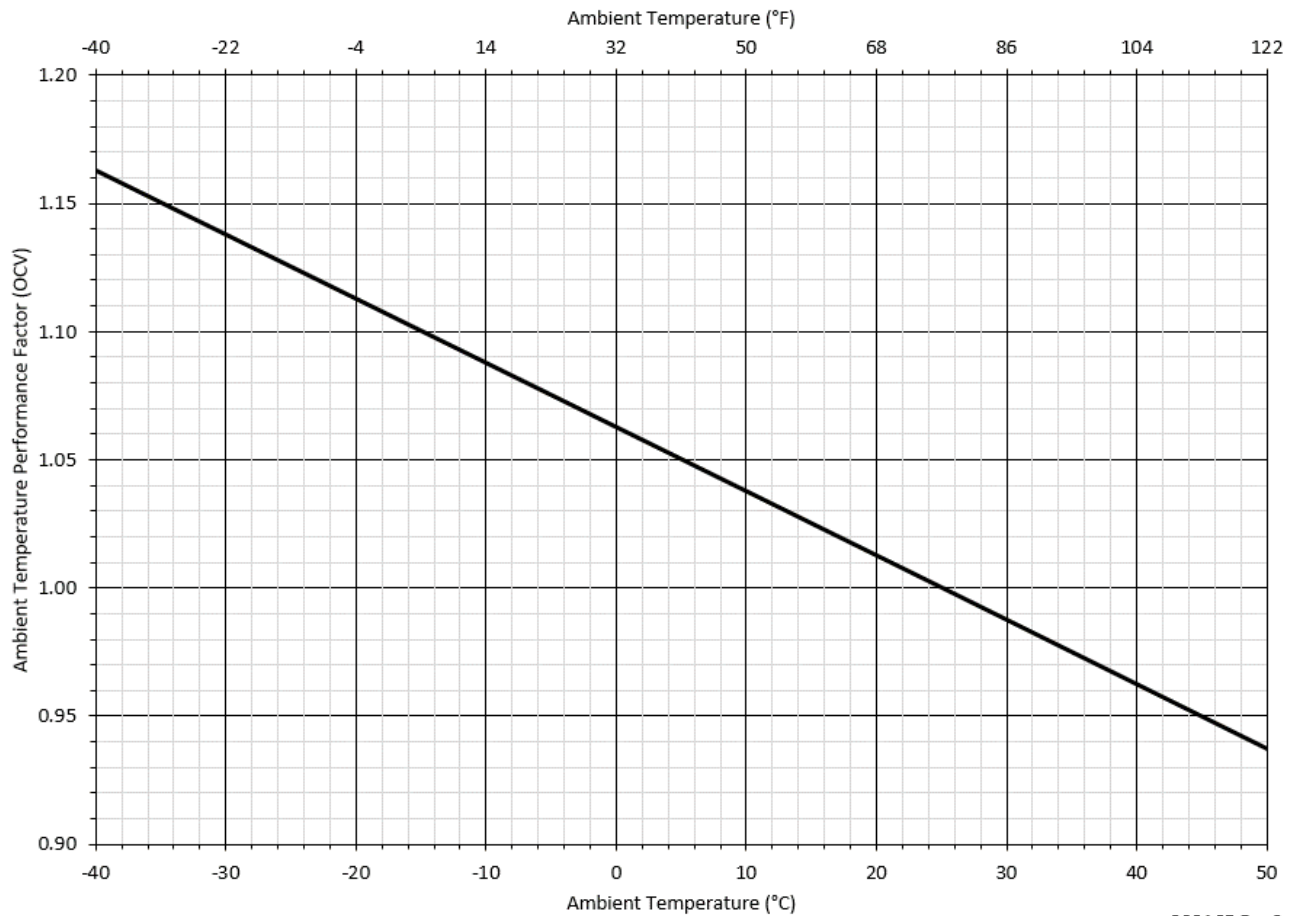

Figure 13 – OCV Ambient Temperature Correction Factor
Use the chart in Figure 13 to determine the temperature correction factor for the current ambient temperature. Record the current ambient temperature and ambient temperature correction factor in the Performance Log at the end of this document.
1. Find the current ambient temperature on the top or bottom axis of the graph in Figure 13.